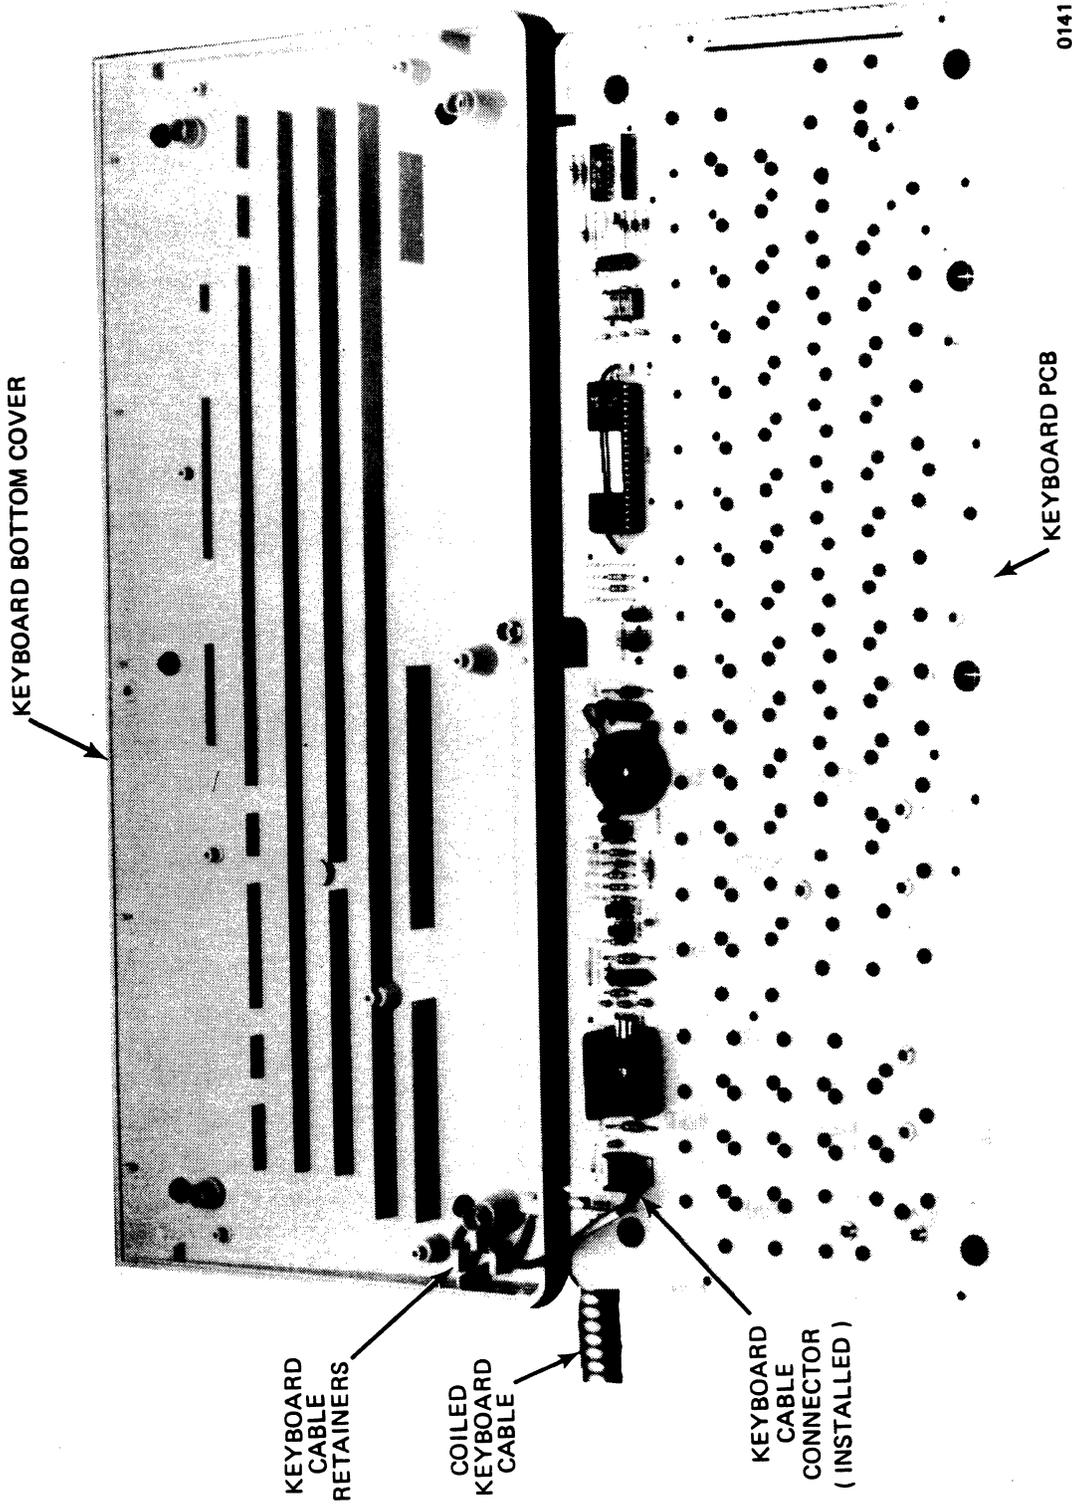

Figure 2-2. Keyboard PCB Removal and Replacement
3. Lift the keyboard PCB up and lay it over the back edge of the bottom cover. See Figure 2-2.
2. Install the keyboard PCB in the bottom cover and secure it in place with eight screws. See Figure 2-2.